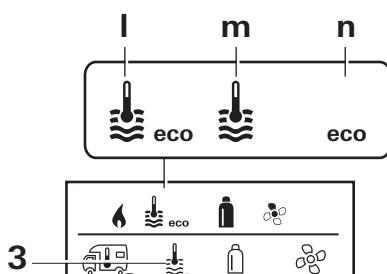

Fig. 6
1. Use the rotary push button to select the icon in the menu line (Fig. 6 – 3).